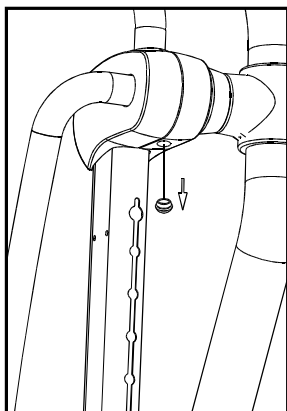

Fig.13
2. (a) Remove the access cap. (see fig.13)